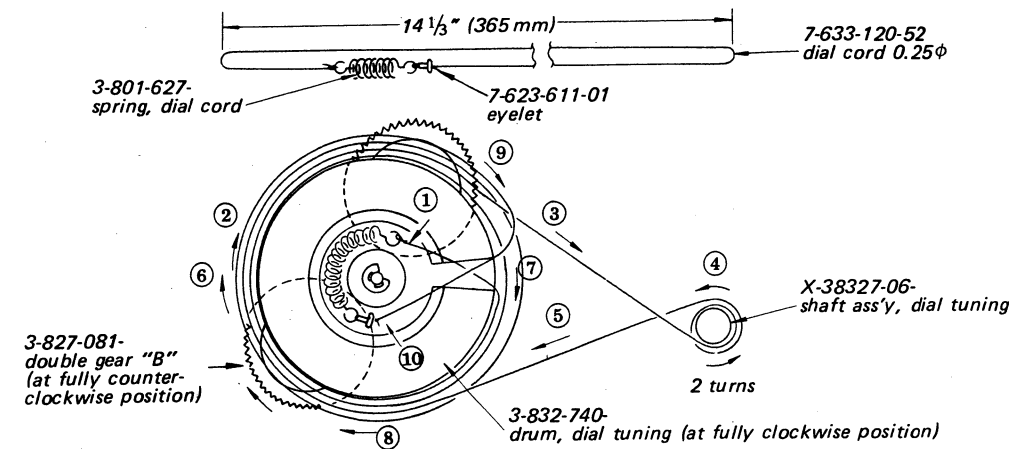

Fig. 2-22. Tuning capacitor driving cord stringing
- 1. Cut a dial cord and make a loop as shown in Fig. 2-22 using a spring and an eyelet.
- 2. String the tuning capacitor driving cord in numerical order as shown in Fig. 2-22.